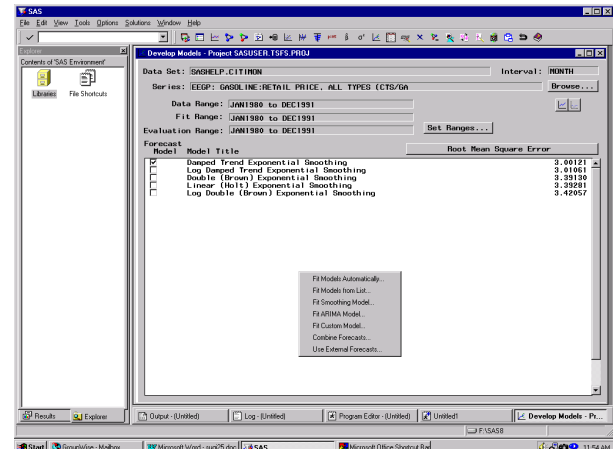
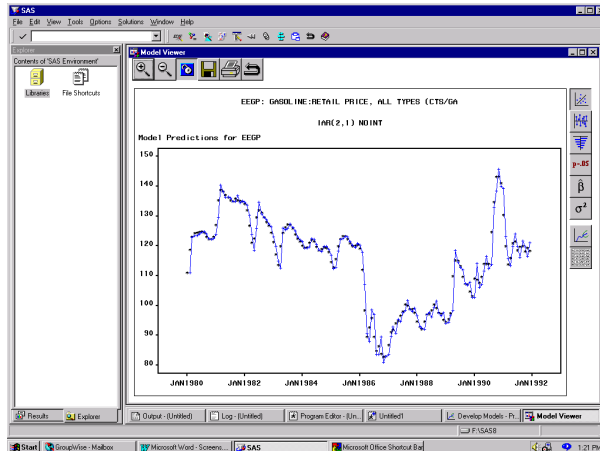
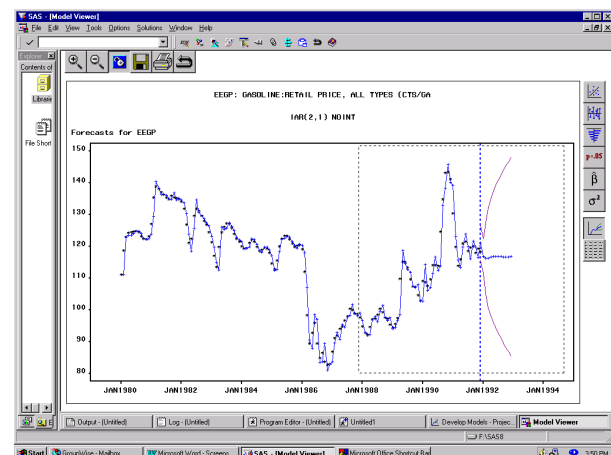
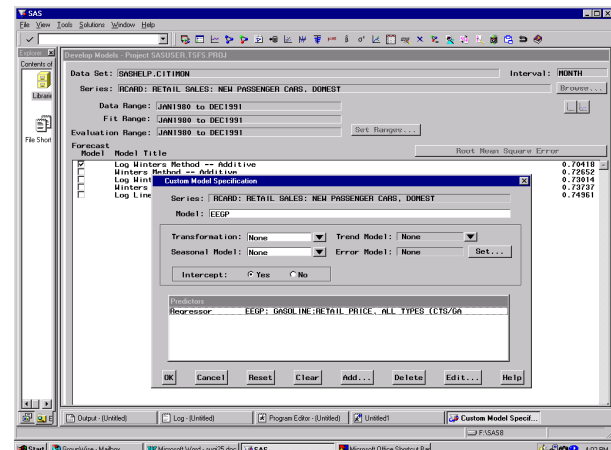

Figure 16 Develop Models
Figure 18 Model Viewer
Figure 20 Zooming In on Plot Forecasts
Figure 23 Custom Model Specification
The plot of first differences shows no obvious evidence of a trend remaining in the series, and the autocorrelation plot is consistent with a stationary series. Examination of the autocorrelation and partial autocorrelation plots suggests that an autoregressive model in first differences might be appropriate, that is, an $IAR(2,1)$ model. Clicking on the **Goback** icon on the right along the top returns you to the **Develop Models** screen (see Figure 16).
hence, is the best model found so far according to the RMSE criterion. The IAR(2,1) model was not found before because it did not appear on the **Model Selection List**. You will see how to add a model to the list later. For now, highlight the IAR(2,1) model, right-click and select the first choice on the popup menu, **View Model...** This brings up the **Model Viewer** screen (see Figure 18).
- Predictions (the default in Figure 18)
Click on **Ok** to return to the **Develop Models** screen. To see the forecasts for the IAR(2,1) model, click on the line for that model to highlight it (it should be the last model in the list). Clicking on the **View Model** button on the upper right (see Figure 16) brings up the **Model Viewer** screen (see Figure 18). Click on the bottom button on the right, **Plot Forecasts**. To zoom in on the end of the series, click on the **Zoom In** button at the left along the top. The mouse pointer changes its appearance; holding down the left mouse button, trace out a box including the last few years of the graph (see Figure 20).
Now you will see if you can improve the forecasting model for RCARD by using EEGP as an explanatory variable. When you fit automatic models to both EEGP and RCARD, you found that the best fitting model for RCARD was the Log Winters Method – Additive, which had an RMSE = .70. The Winters Method – Additive had only a slightly larger RMSE of 0.72. To use EEGP as an explanatory variable in a model for RCARD, return to the **Develop Models** screen (see Figure 16) and select RCARD as the Series. Click in a blank area of the screen and select **Fit Custom Model...** to get the **Custom Model Specification** screen. In the lower portion of the screen labeled Predictors, right click and select **Add Regressors...** and select EEGP. The result is Figure 23.